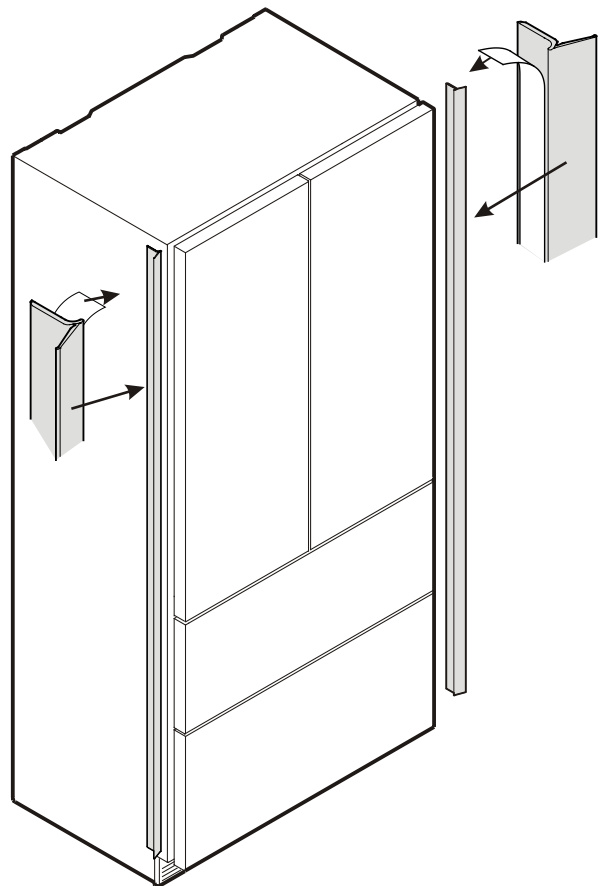

Figure 10
Cover strips - Figure 10
- Remove the cover band from the strips and stick them to the left and right front edge of the appliance housing (Figure 10).